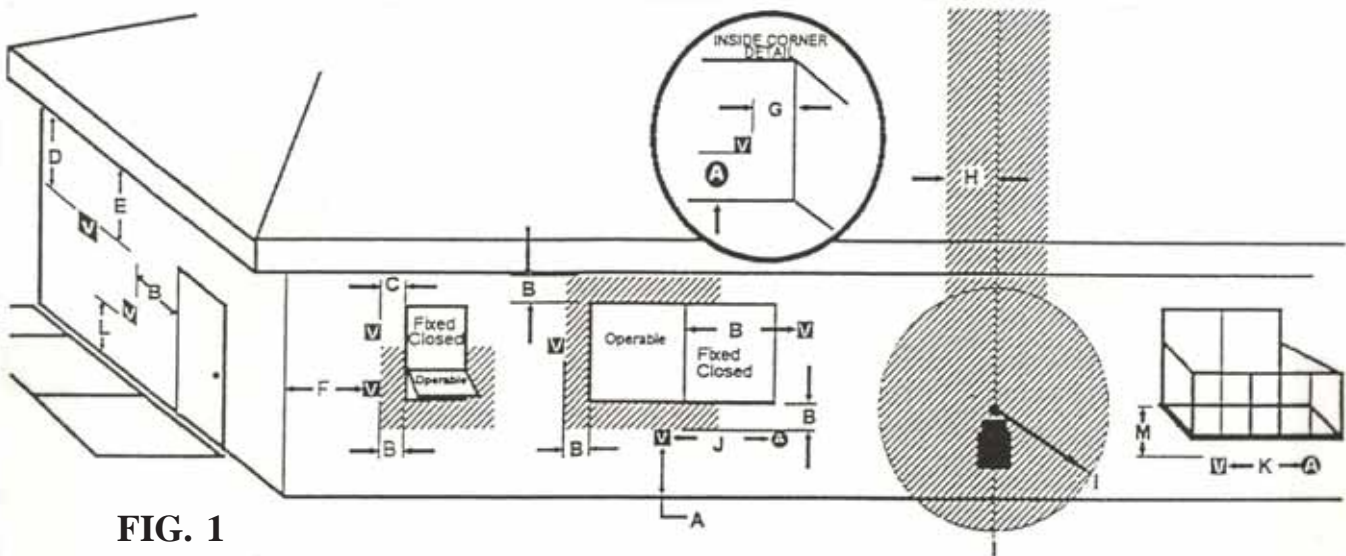

FIG. 1
3. Check outside wall where vent will exit, for proper clearances (See Figure 1), compliance with local codes and clearances above grade. Also, consider exterior appearance, walkways, plantings, etc.
- b) Check outside vent termination for proper clearances. See Figure 1.